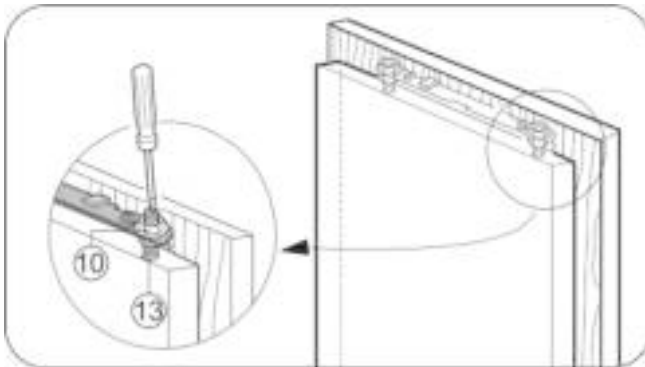

Fig. 30
- ▶ Tighten lock nuts Fig. 30 (10) with a no. 13 Allen key, making sure you counterhold the adjusting bolts Fig. 30 (13) with a screwdriver.